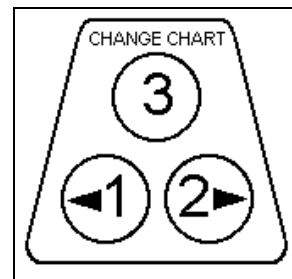

Figure 3: Push buttons.
should briefly stop at the outer most temperature graduation of the chart before continuing onto the chart to begin recording. If the pen does not stop exactly at this location on the chart, it can be adjusted or "calibrated" by using the left (#1) or right (#2) arrow buttons (refer to Figure 3).
When the pen moves back onto the chart and briefly stops, you will have approximately five (5) seconds in which to adjust the pen's position using the left and right arrow buttons of Figure 3.